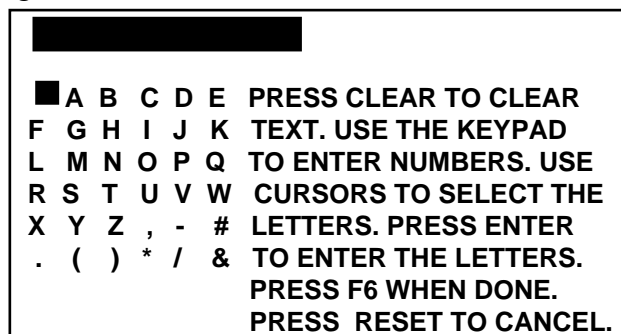

Figure 4-18. Overlay for entering text
- Use the cursor keys to highlight the name you want. Press ENTER to select it. If you want to make up a custom name, highlight “CUSTOM” and press ENTER. A screen overlay appears that allows you to enter up to twelve characters of text for a custom name, Figure 4-18.